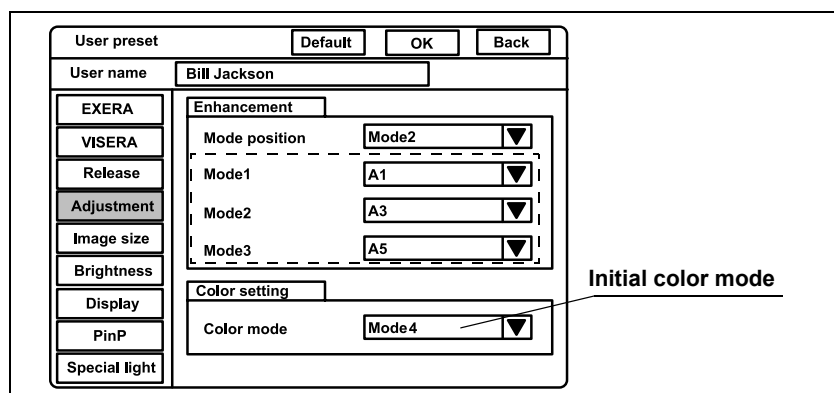

Figure 9.22
1. Click “Enhancement” on the system setup menu. The setting items appear on the right side of the window (see Figure 9.22).
2. Click “ ▼ ” of “Color mode” (see Figure 9.22). The color modes appear in the pull-down menu.